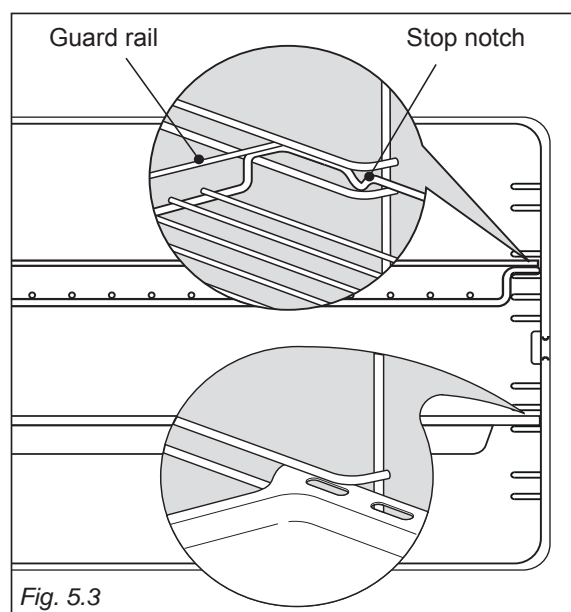

Fig. 5.3
- Slide the rack into the runners (fig. 5.3).